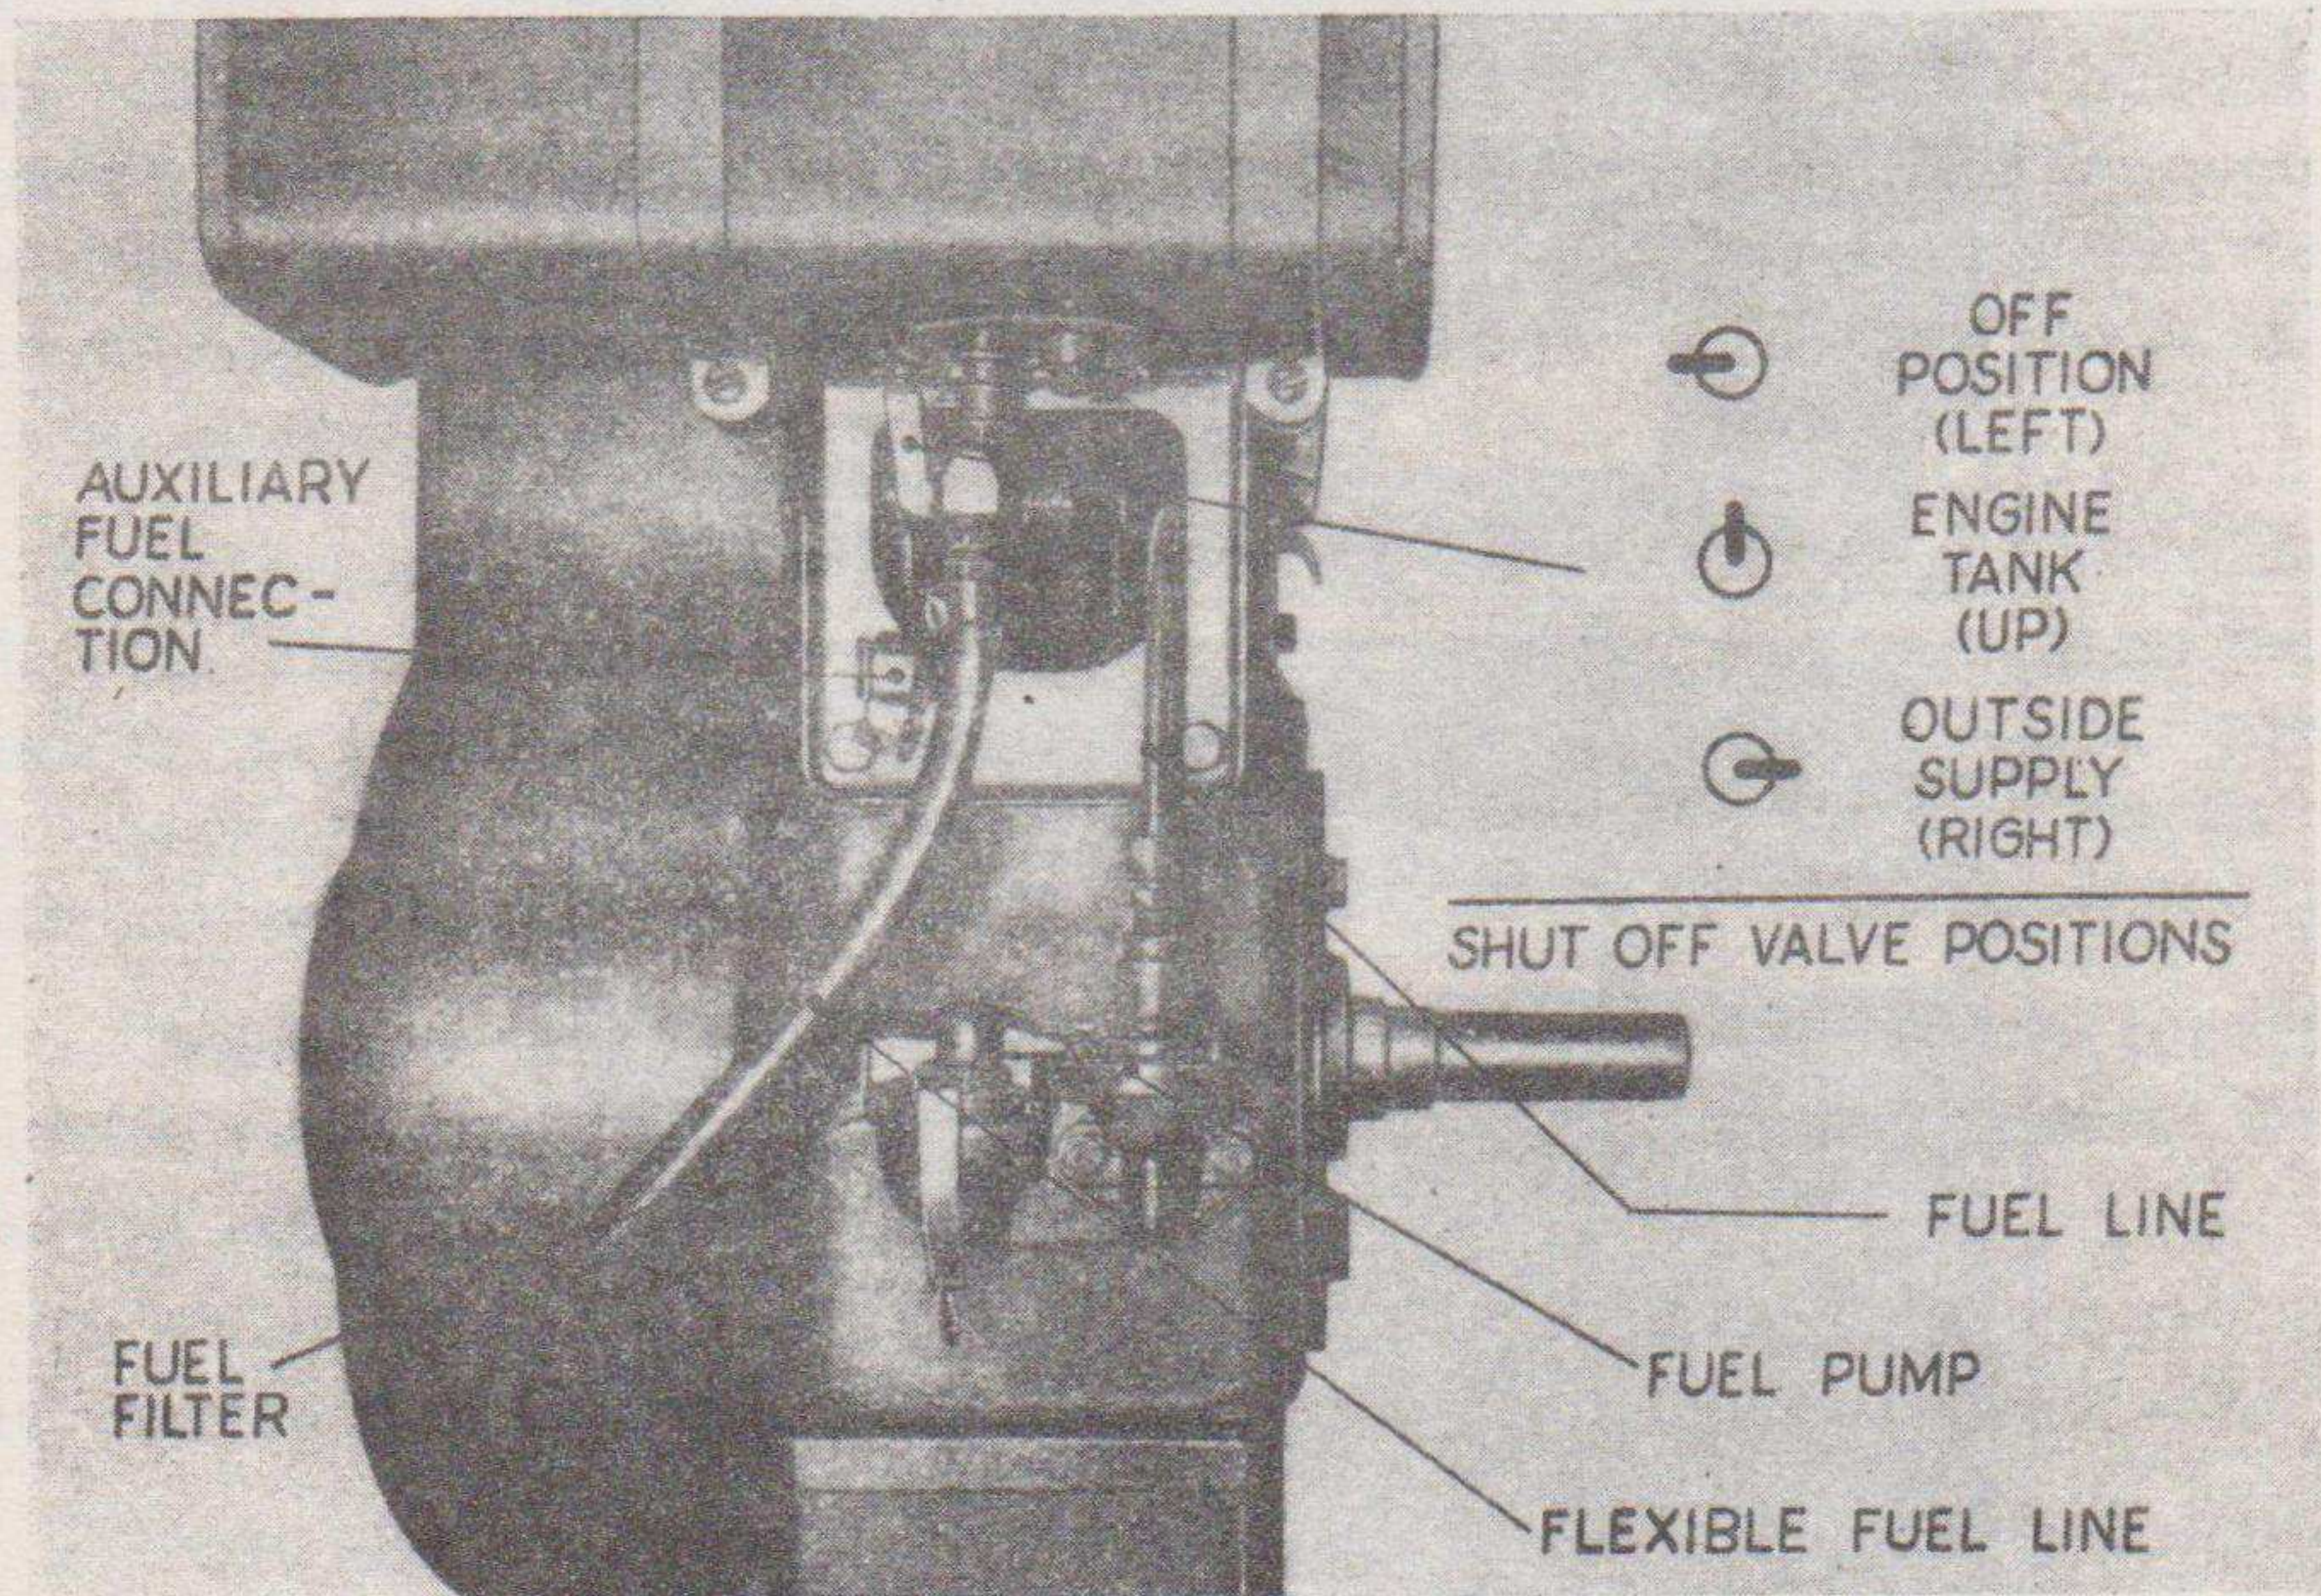

Figure 7. Power Unit PE-75-AF-GY, fuel supply assembly.
*d.* If fuel is to be drawn from a remote supply tank, it is recommended that the tank be located outside the building or shelter and as far from the unit as the length of the remote fuel supply line will permit. Connect one end of the remote fuel supply line to the three-way fuel valve on the unit and connect the other end to the fuel supply tank (fig. 7).
Fill the fuel tank and inspect all connections in the fuel line for leaks. Turn the three-way fuel valve so that the handle is pointing upward. Have some one hold a finger on the stop button on the breaker box and crank the engine several times while the stop button is being pressed. If the fuel pump is functioning properly, the glass sediment bowl, which is part of the fuel filter, will fill with fuel. Shut off the fuel supply by turning the three-way valve (fig. 7) so that the handle is pointing to the left. If fuel is to be drawn from a remote source, remove the cap from the auxiliary fuel connection elbow and connect the remote fuel line to the elbow. If a remote fuel supply is not to be used, make sure that the cap is securely in place on the auxiliary fuel connection elbow. Check the carburetor and all connections to see that there are no leaks. Try all control linkage to see that it moves freely.
- (1) Drain the engine crankcase and refill it with Oil, lubricating, preservative (PL-Special).
- (2) Drain the fuel tank and refill it with fresh fuel to which gum preventive compound has been added, in the proportion of one-quarter container of gum preventive compound to 5 gallons of gasoline.
- (3) Place the three-way fuel valve in position to draw fuel from the fuel tank on the unit (fig. 7) (handle pointing upward). Operate the unit on this fuel mixture for 5 minutes. Shut off the fuel supply and permit the unit to come to a stop by pumping the carburetor dry.
- (4) Disconnect the lower end of the fuel line from the fuel shut-off valve and drain the fuel tank.
- (5) Remove the sediment bowl and screen from the fuel pump assembly and clean them thoroughly.
- (6) Disconnect the fuel line from the fuel pump and from the carburetor and blow it out with compressed air.
- (7) Remove the high speed jet assembly from the carburetor and drain the carburetor thoroughly.
- (8) Crank the unit several times to remove any fuel that may remain in the fuel pump.
- (9) Reassemble the screen and sediment bowl to the fuel pump assembly and replace the fuel line between the fuel pump and carburetor.
- (10) Remove the spark plug from the engine. Have someone crank the engine and, while the engine is being cranked, spray oil (PL-Special) into the cylinder through the spark plug hole.
- (11) Remove the valve cover plate from the side of the cylinder and spray the valve mechanism with oil (PL-Special).
- (12) Drain the preservative oil from the engine crankcase. Attach a red tag to the crankcase oil filler which reads as follows: